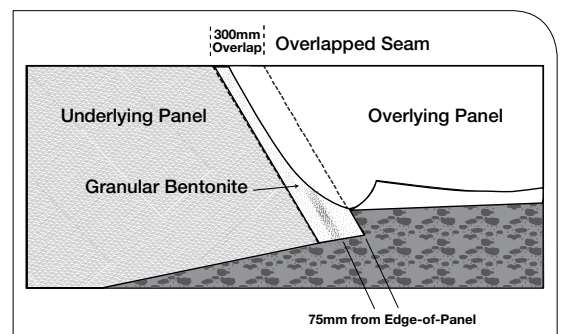

FIGURE 11 BENTOMAT® End-of-Panel Overlapped Seam
7.5 Bentomat end-of-panel, bentonite-enhanced, overlapped seams are constructed first by overlapping the adjacent panels, exposing the underlying panel, and then applying a continuous bead or fillet of granular sodium bentonite 300mm from the edge of the underlying panel (Figure 11). The minimum application rate at which the bentonite is applied is one-quarter pound per linear foot (0.4 kg/m).